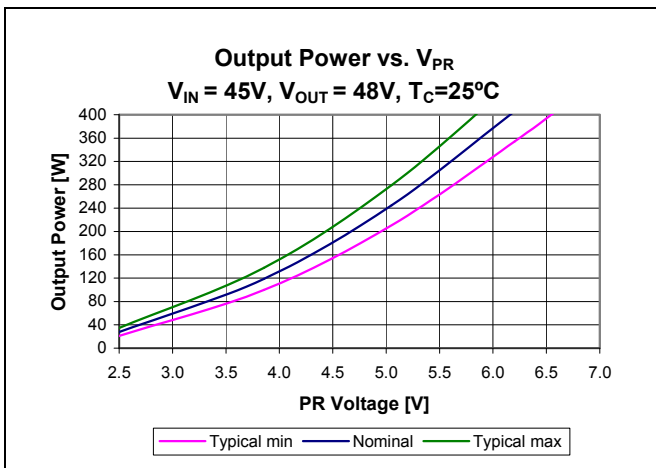

Figure 21 – Output Power vs. V_{PR} ; $V_{IN} = 45\text{ V}$, $V_{OUT} = 48\text{ V}$, $T_{CASE} = 25^{\circ}\text{C}$
Control node (PR) is the input to the control node which determines the powertrain timing and ultimately the module output power (Figure 21). An internal 0.5mA current sink is always active. The bi-directional buffer between PR and the control node has two states. In normal operation, PR will be above the 0.79V switching threshold, and will drive the control node through the buffer. An internal 7.4V clamp determines the maximum output power that can be requested of the modulator.